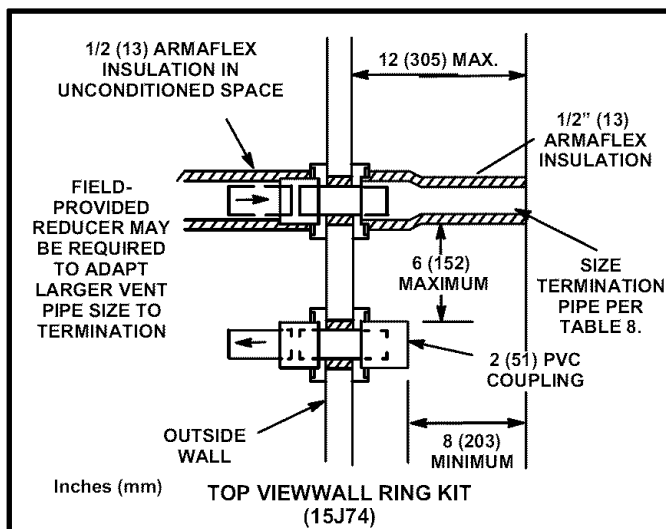

FIGURE 35
- 6 - On field supplied terminations for side wall exits, exhaust piping should extend a maximum of 12 inches (305mm) beyond the outside wall. Intake piping should be as short as possible. See figure 35.